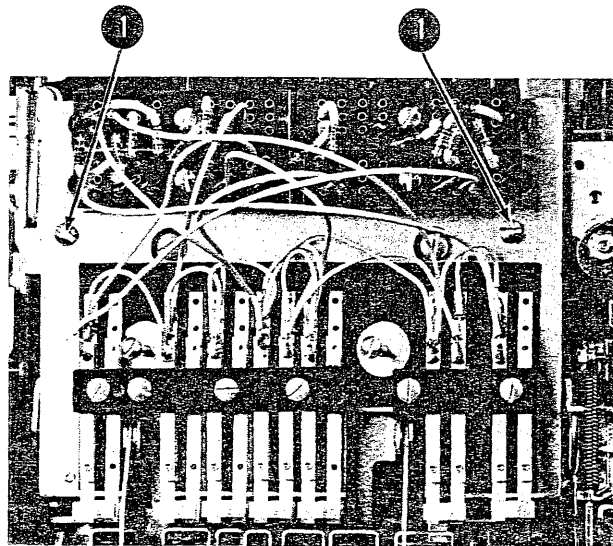

Figure 4-12. Rotate-Spring Replacement (Steps 1-4)
4. Remove the two screws (No. 1, Figure 4-12) that hold the contact plate to the frame. Remove the contact assembly, holding it to the front with a rubber band. Do not lose the shims, if present.
3. Remove the two screws (No. 1, Figure 4-12) that hold the contact plate to the frame. Remove the contact plate, holding it to the front with a rubber band. This plate is not present on all printers.